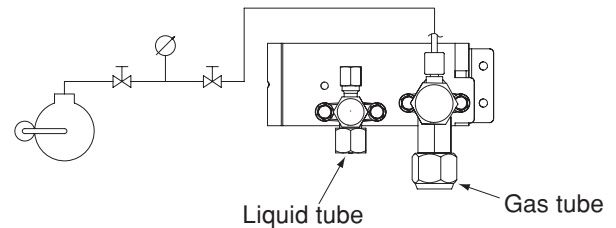

Fig. 10-2
- (6) Both the gas and liquid tube service valves are open. If not, open them now. (Fig. 10-2)
- (7) Request that the customer be present for the trial run.